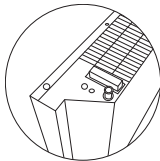

Figure. 4
1. Carefully turn the convector upside down (Fig. 4).